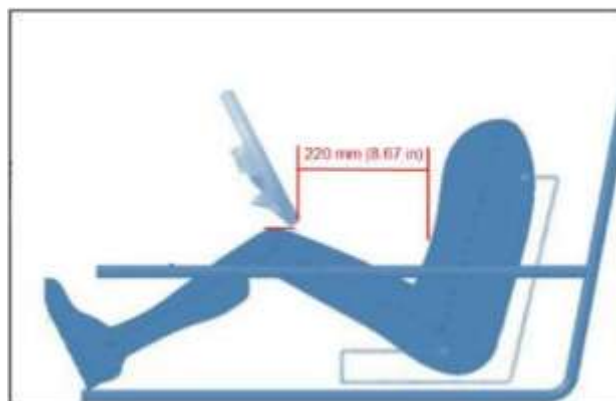

Figure B- 74: Driver's Chest Clearance
There must be a minimum clearance (RA) of 220mm between the driver's chest, upper body/torso, helmet and the steering wheel at all possible rotations of the steering wheel, as illustrated in Figure B-74. Also there must be a minimum clearance of 70 mm between the steering wheel and knees of the driver.